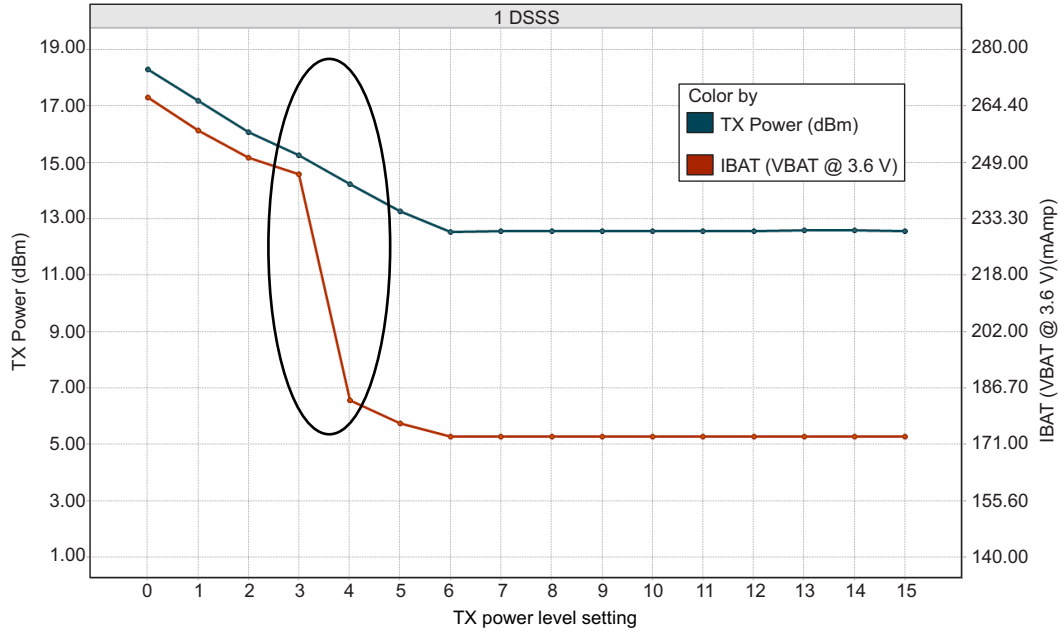
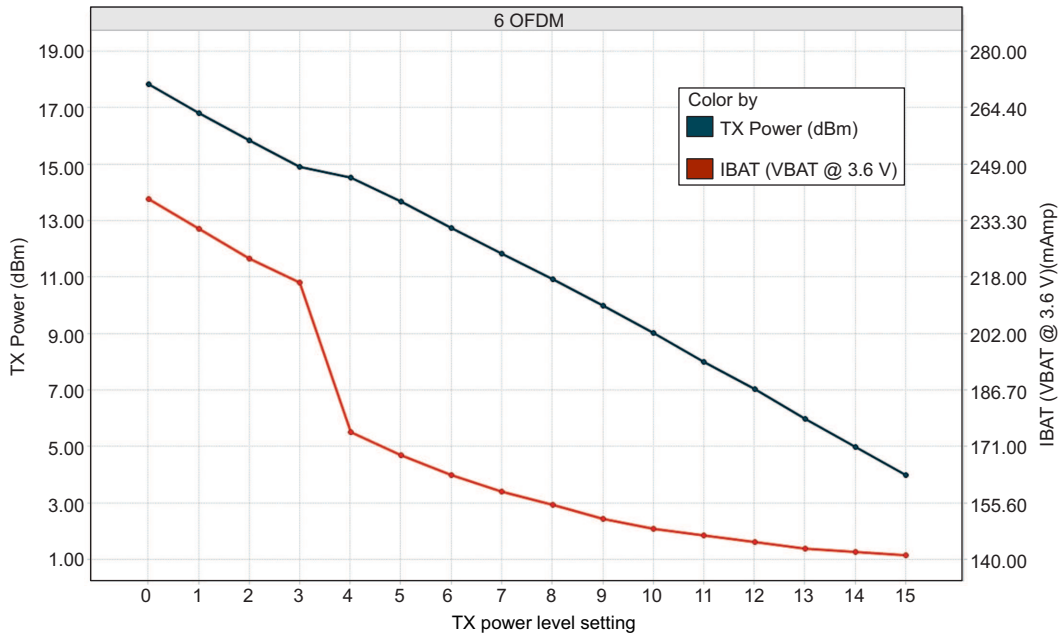
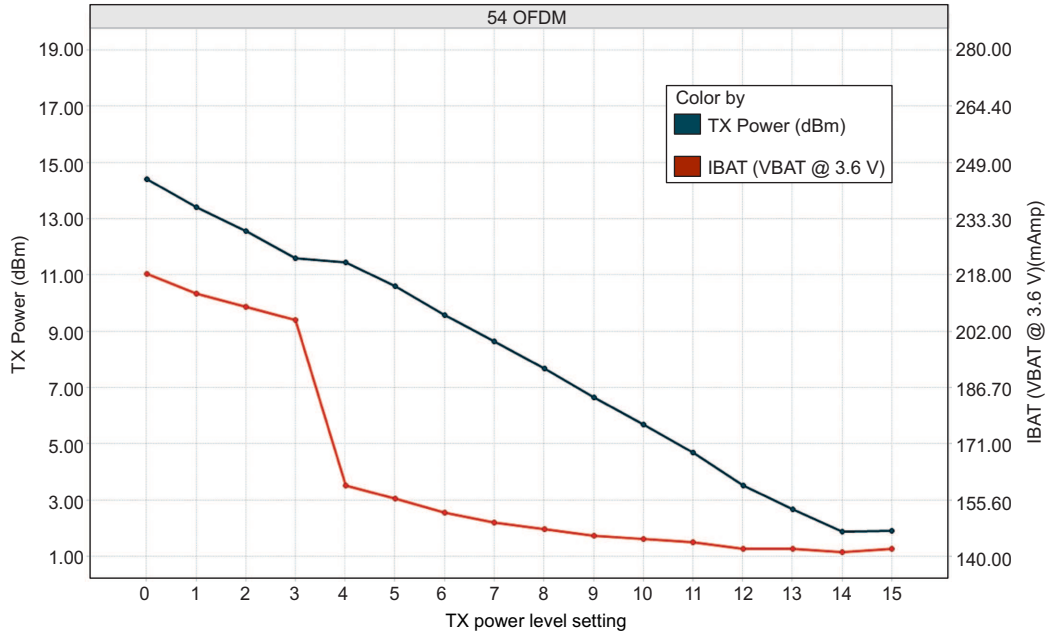

Figure 5-1. TX Power and IBAT vs TX Power Level Settings (1 DSSS)
Figure 5-2. TX Power and IBAT vs TX Power Level Settings (6 OFDM)
Figure 5-3. TX Power and IBAT vs TX Power Level Settings (54 OFDM)
- (1) TX power level = 0 implies maximum power (see Figure 5-1, Figure 5-2, and Figure 5-3). TX power level = 4 implies output power backed off approximately 4 dB.
- (2) The CC3235x system is a constant power-source system. The active current numbers scale based on the  $V_{\text{BAT}}$  voltage supplied.
- (3) Typical numbers assume a VSWR of 1.5:1.
- (4) DTIM = 1
- (5) LPDS current does not include the external serial flash. The LPDS number of reported is with retention of 256KB of MCU SRAM. The CC3235x device can be configured to retain 0KB, 64KB, 128KB, 192KB, or 256KB of SRAM in LPDS. Each 64-KB block of MCU retained SRAM increases LPDS current by 4  $\mu\text{A}$ .
- (6) The complete calibration can take up to 17 mJ of energy from the battery over a period of 24 ms. Calibration is performed sparingly, typically when coming out of HIBERNATE and only if temperature has changed by more than 20°C. The calibration event can be controlled by a configuration file in the serial flash.
Figure 5-1, Figure 5-2, and Figure 5-3 show TX power and IBAT versus TX power level settings for the CC3235S device at modulations of 1 DSSS, 6 OFDM, and 54 OFDM, respectively. For the CC3235SF device, the IBAT current has an increase of approximately 10 mA to 15 mA depending on the transmitted rate. The TX power level will remain the same.
In Figure 5-1, the area enclosed in the circle represents a significant reduction in current during transition from TX power level 3 to level 4. In the case of lower range requirements (14-dBm output power), TI recommends using TX power level 4 to reduce the current.